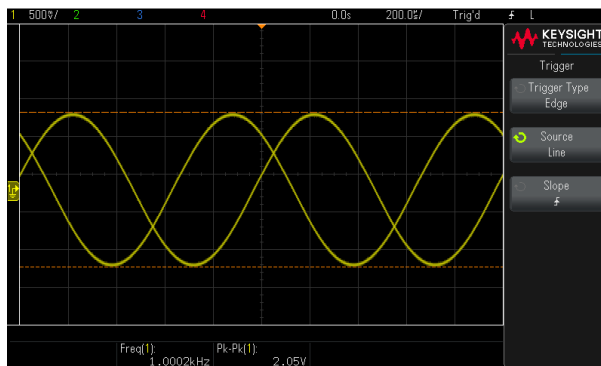

Figure 8 – Untriggered Signal
- Oscilloscopes display a moving wave. When the wave runs out of space on the display screen, it continues, starting at the far left. When that section of the wave is not aligned with the section of the wave already on the display screen, it is untriggered, and either appears to be moving as shown in **Figure 8**.